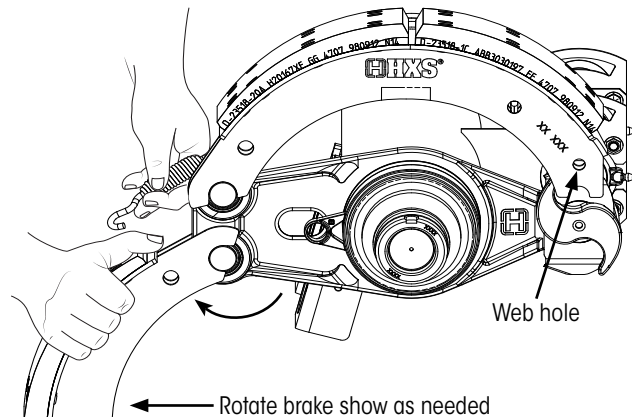

Figure 41: Attaching new brake retaining springs
4. Pre-lubricate brake shoes as indicated in Figure 41.
7. Securely lock the roller retaining clip in the brake shoe web holes (Figure 41).